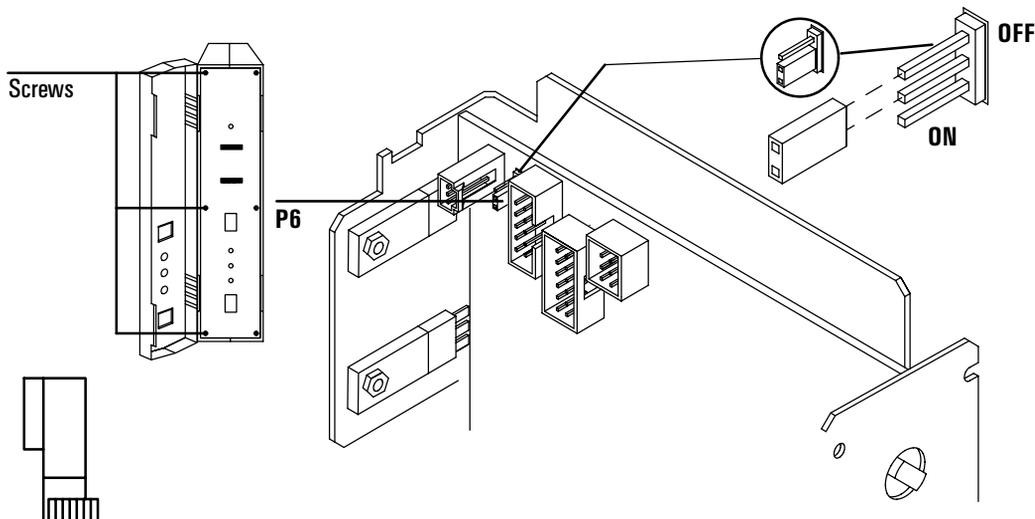

Figure 26. P6 jumper setting
5. Connect the P6 jumper so that it covers the top two prongs on the circuit board labeled **OFF**. See Figure 26. Return the ribbon cable to its original position.